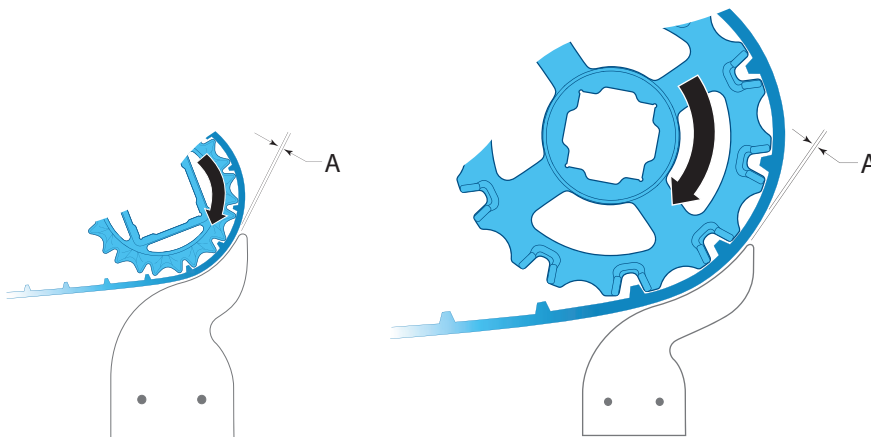

Figure 12
- For ideal end drive design, use concave, shoe-style position limiters that span a minimum of three S8026 drive bars or two S8050 drive bars (Figure 12).
- Place shoe-style limiters with a 0.005-0.05 in (0.13-1.25 mm) spacing between the seated belt and the limiter (Figure 12, A). Limiters too far from the belt cause belt engagement issues.